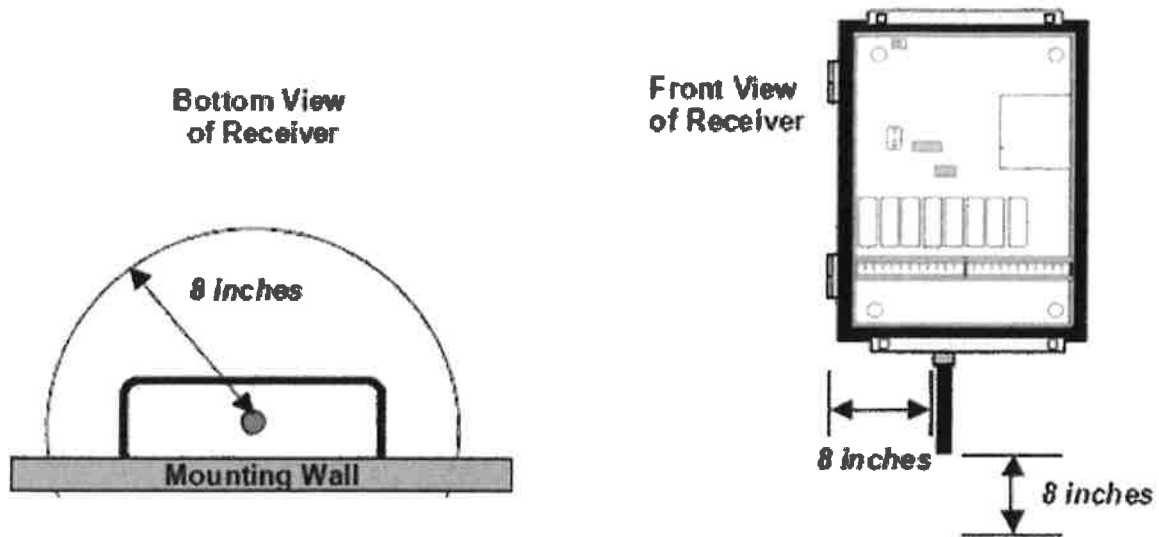

Figure 4: Antenna Clearance
- For optimum performance, give the antenna itself a minimum of eight (8) inches clearance in all directions, excluding the wall or plate to which the receiver cabinet is mounted (refer to Figure 4).